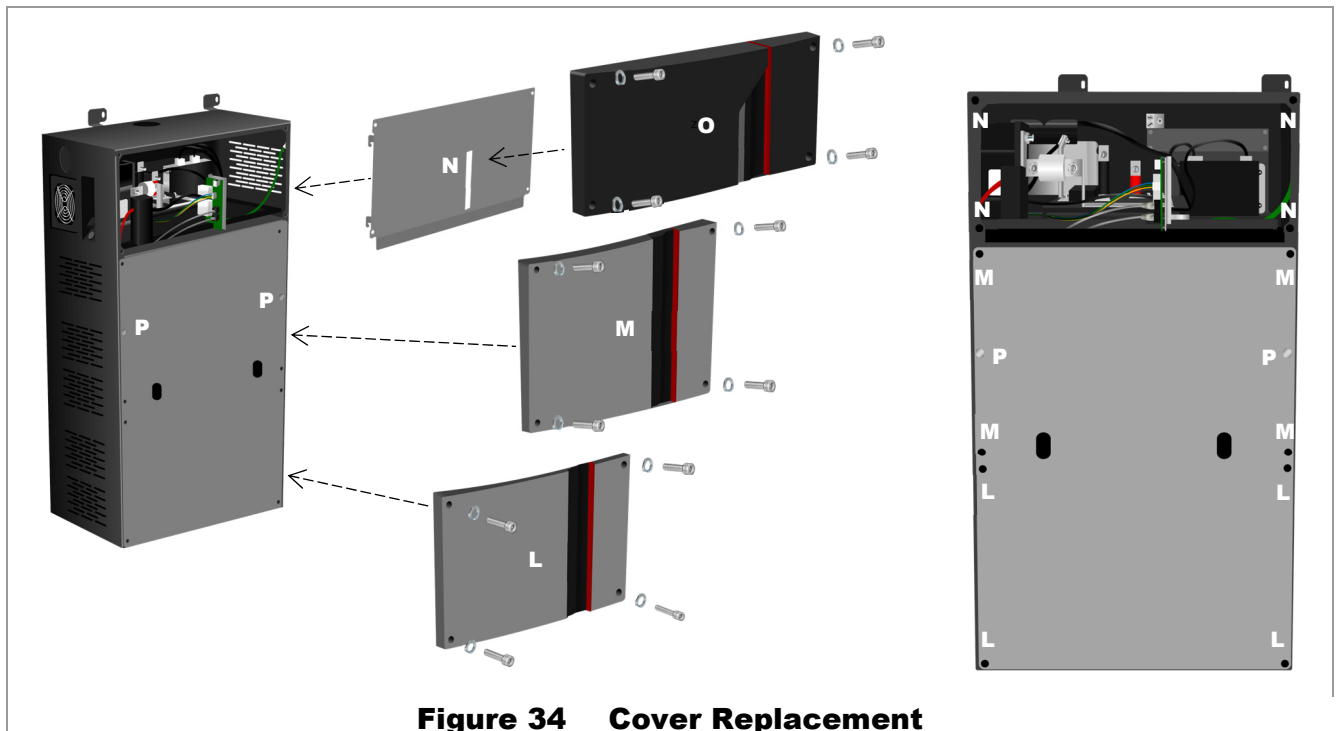

Figure 34 Cover Replacement
2. Replace all covers. This step includes the exterior covers **L**, **M**, and **O** shipped with the unit, as well as the interior cover **N** for the wiring compartment. Do not remove any other interior covers. Do not remove the hex screws **P**. Install the covers **L**, **M**, **N**, and **O** as shown in Figure 34. Use a 5 mm hex (Allen) driver to install the M6 screws and washers at locations **L**, **M**, and **N**.